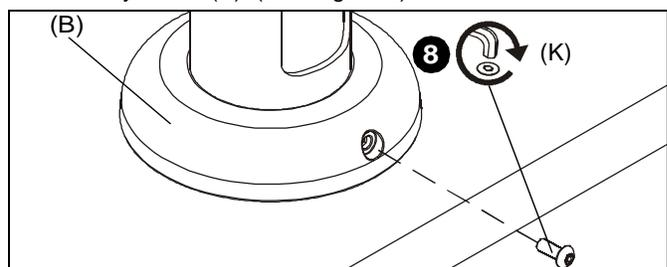

Figure 4
**IMPORTANT ! :** Provided screws (G) can be used to install on surfaces up to 1 5/8" in depth. For deeper tables, longer 1/4-20" screws that are not provided must be used.
8. Secure lower cover to table stand (B) using #10-24 x 1/2" security screw (K). (See Figure 4)